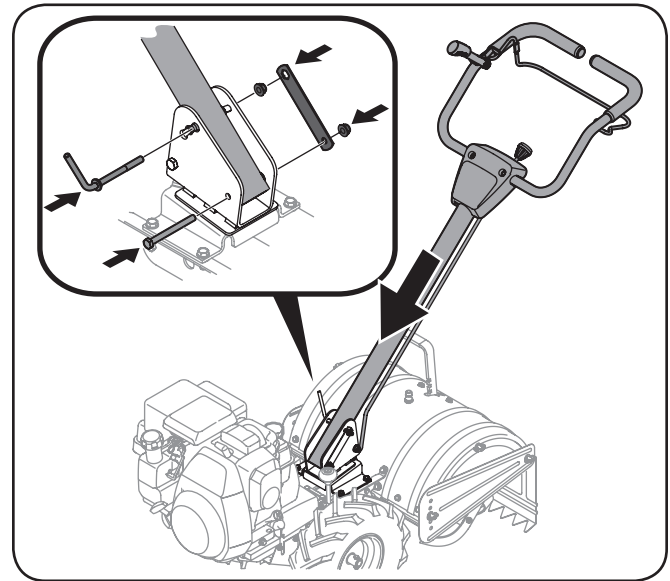

Figure 3-1
1. Remove the hex screw, handle crank adjuster, retainer bracket and flange lock nuts from the handle mounting brackets. See Figure 3-1.
2. Place the handle assembly in position between the handle bracket. See Figure 3-1.